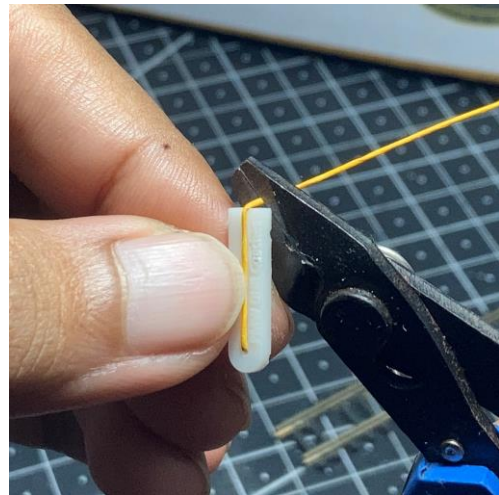

Figure 13
- Bend 90 degrees again at the edge, and cut at the bottom edge – Fig 13.